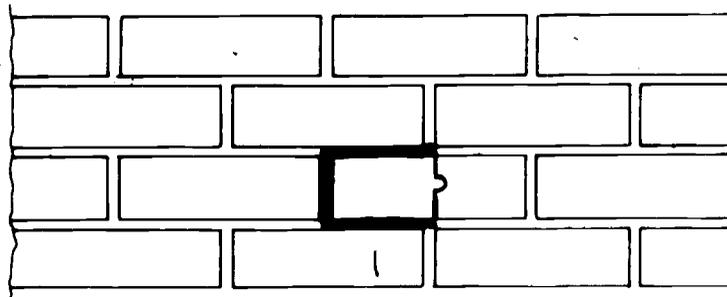

FIGURE 2
- D. Chisel the mortar from around your penciled in box (Figure 2)